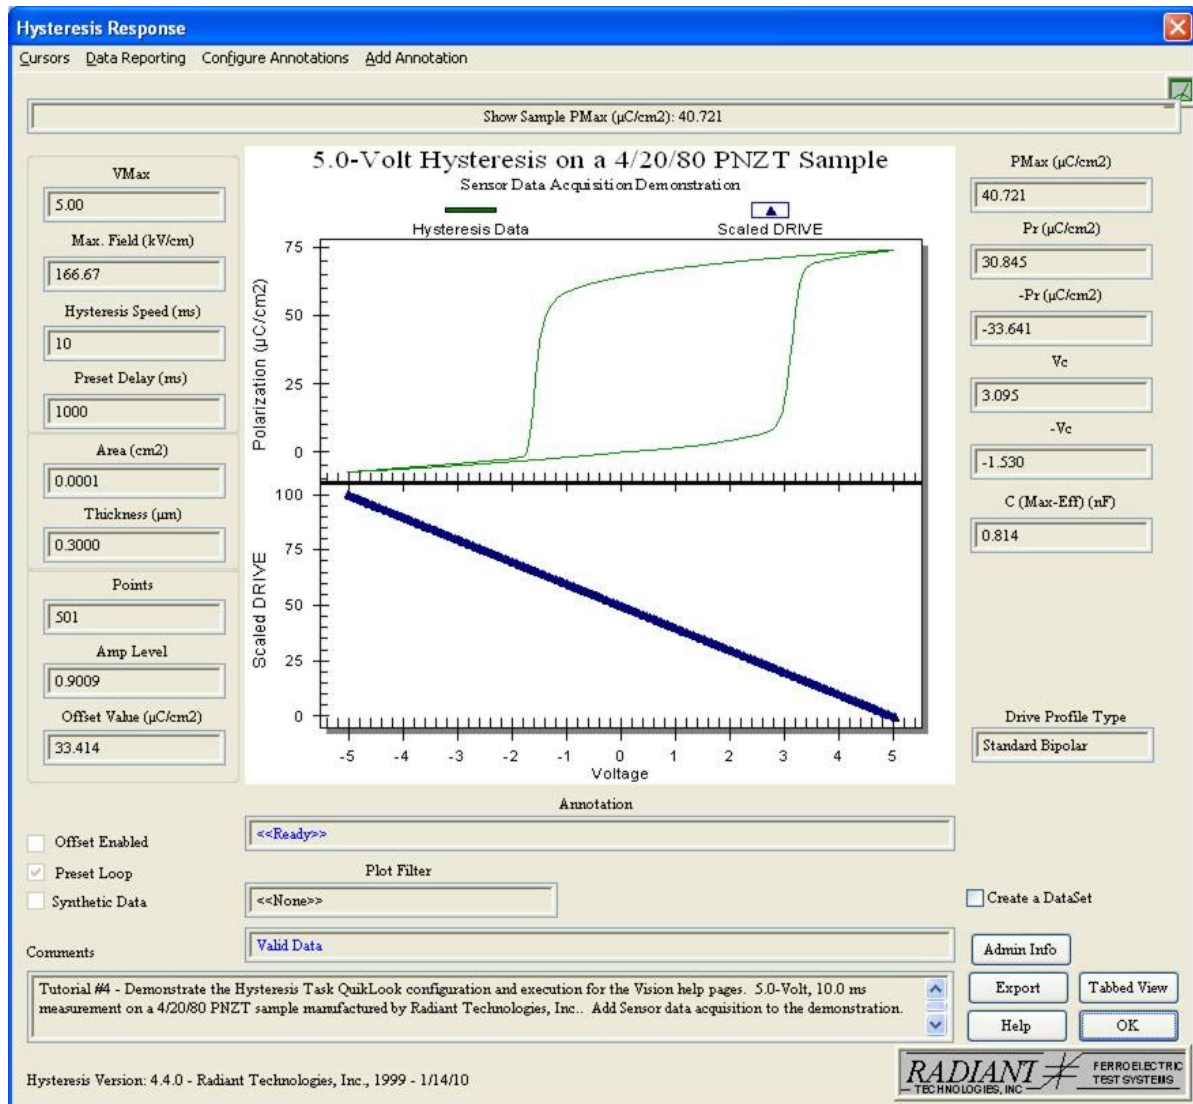

Figure 7 - 5.0-Volt/10.0 ms 1.0 nF Linear Reference Capacitor Hysteresis + Scaled and Offset SENSOR.
1. On the configuration dialog click *OK* . The measurement will begin as indicated by text written to the status bar in the lower left corner of the Vision display window. The tester's front panel green ACTIVE LED will extinguish while the measurement is being made. The LED may turn on and off several times during the measurement as the RETURN signal amplification level is adjusted and the measurement is repeated. Once the measurement is finished, the data will be display on the QuikLook Results dialog as in **Figure 7** . Note that both the polarization and sensor data are plotted as a function of the same independent variable - Drive Voltage. However, the data are shown in separate plots. There are are two reasons to separate the plots: the sensor data units are almost certainly not the same as the measured sample data and should not be mixed; the units of the measured data, after filtering and applying the linear transform to the sensor data, may differ greatly so that the two data vectors will not plot well together. Note that the plotted Sensor Data, labeled "Scaled DRIVE" , are an accurate representation of the linear conversion: